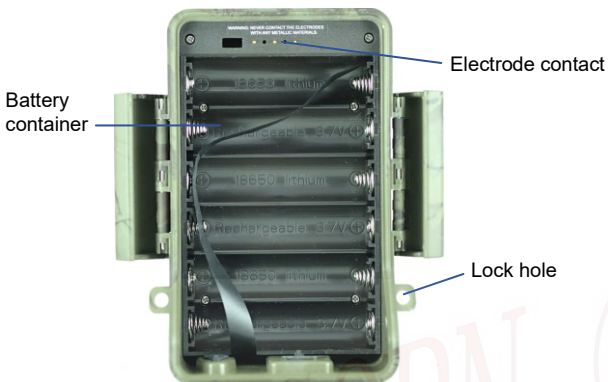

Figure 1.2 Bottom View of the Camera
- Figure 1.2 shows the bottom view of the camera